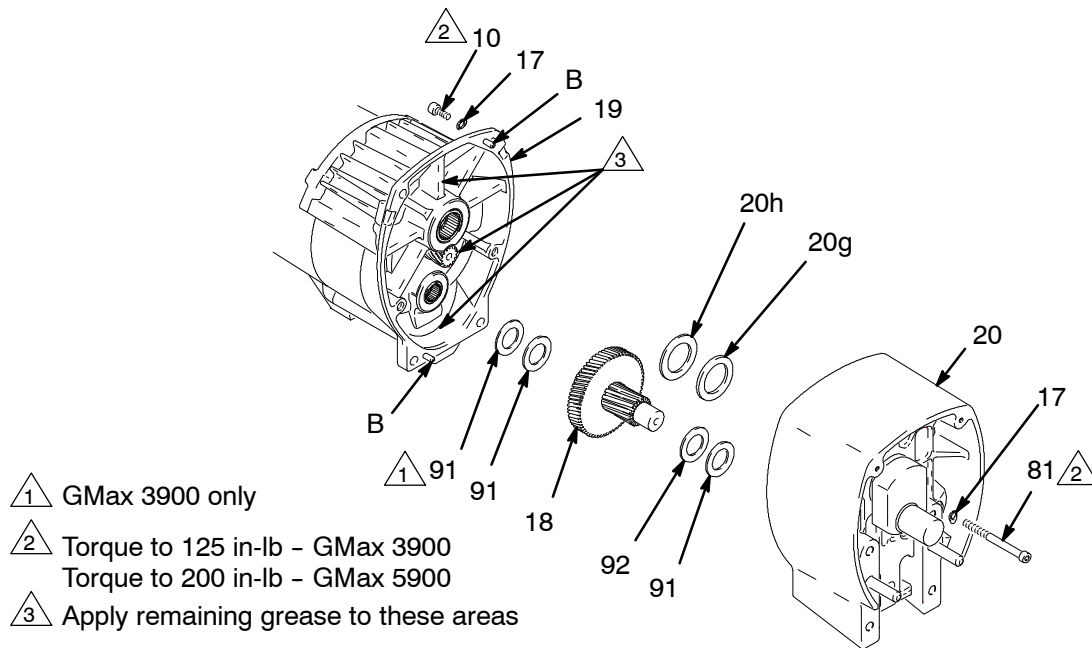

Fig. 3
- Fig. 3. Remove bearing housing. Do 1. through 8. of **Bearing Housing and Connecting Rod** procedure on page 8.
- Fig. 3. Remove two screws (81) and lockwashers (17).
- Remove four screws (10) and lockwashers (17) from pinion housing (19).
- Lightly tap around drive housing (20) to loosen drive housing. Pull drive housing straight off pinion housing. Be prepared to support gear cluster (18), which may also come out.
- Fig. 3. Install bearing housing. Do 1. through 6. of **Bearing Housing and Connecting Rod** procedure on page 8.